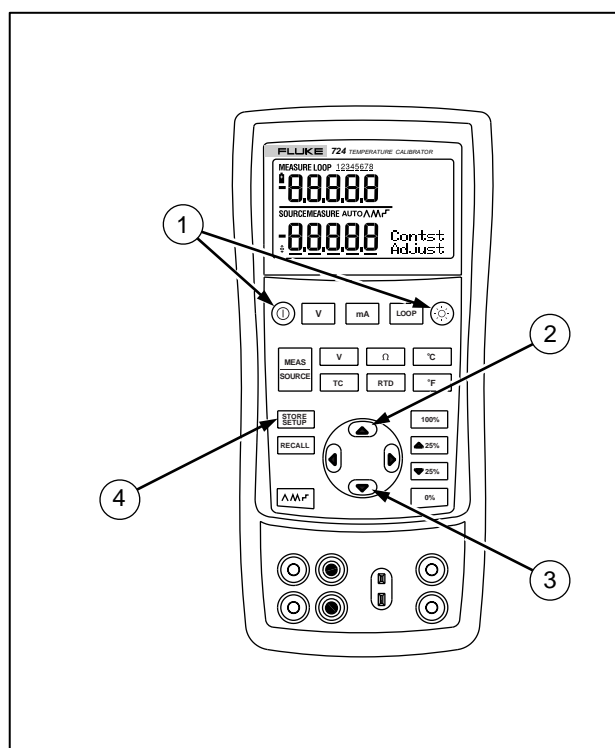

Figure 6. Adjusting the Contrast
1. Press  and  until Contst Adjust is displayed as shown in Figure 6.